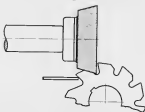
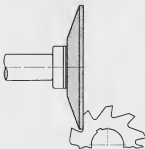

Figure 99B
Figure 99C
- The third operation, grinding the back of the tooth, wears away wheels very rapidly. For this reason, two methods are shown. Figure 99C shows the operation with a new wheel Print No. 12Y-155, while Figure 99B shows the operation with a worn-out cup wheel Print No. 11Y-120 mounted on the spindle. The latter is recommended for the majority of shops, as there are usually plenty of these worn wheels which would otherwise be discarded. Grind one tooth at a time, in increments of about .002", until the width at the periphery approximately equals that of a new cutter. This width is an important factor in the strength of the cutter; and it must not be too narrow or the cutter may break in use.